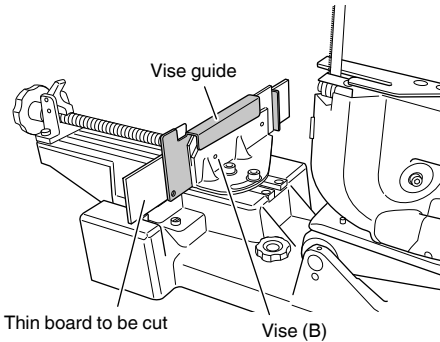

Fig. 13
When cutting a thin or small diameter workpiece, place the vise guide supplied as a standard accessory onto the top of vise (B) to reduce the clearance between the band saw blade and the vise guide. (**Fig. 13**)